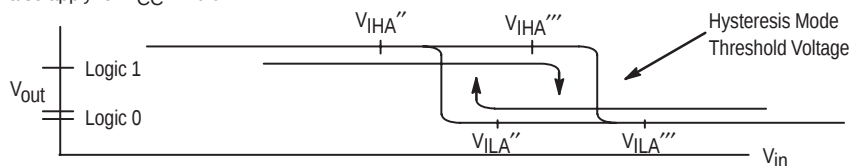

Figure 1. Hysteresis Mode Threshold Voltage
2. Output latched to logic high state prior to test. V_{IHA}' , V_{ILA}' are standard logic 1 and logic 0 M TTL threshold voltages. V_{IHA}'' , V_{ILA}'' , V_{IHA}''' and V_{ILA}''' are logic 1 and logic 0 threshold voltages in the hysteresis mode as shown in Figure 1 on page 3.
1. Pin 5 to V_{EE}, V_{IL} to Data input one at a time.2. Output latched to logic high state prior to test. V_{IHA'}, V_{ILA'} are standard logic 1 and logic 0 MTTL threshold voltages. V_{IHA''}, V_{ILA''}, V_{IHA'''} and V_{ILA'''} are logic 1 and logic 0 threshold voltages in the hysteresis mode as shown in Figure 1 on page 3.